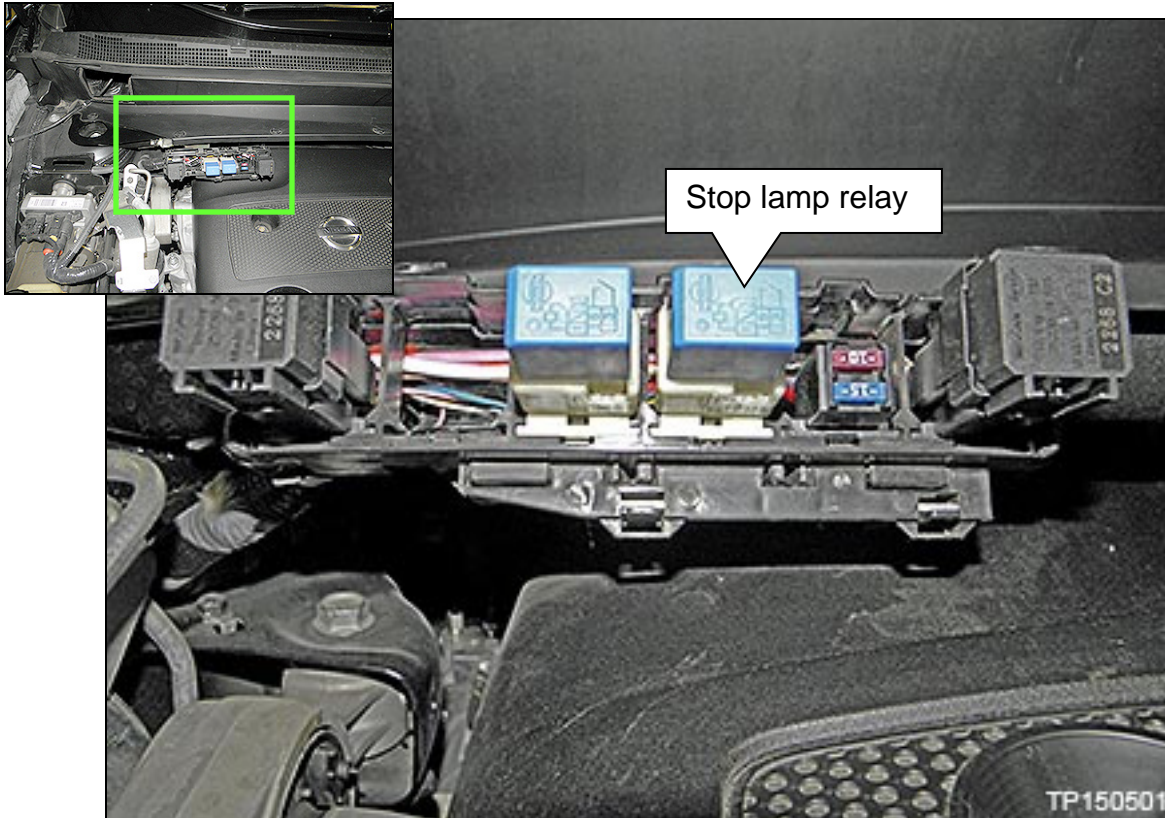

Figure 1
2. Remove “fuse and relay box” (fuse box) cover and locate stop lamp relay (Figure 1).